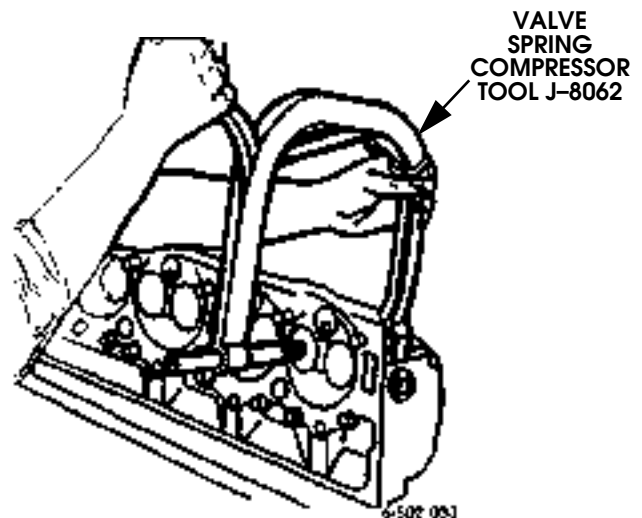

Figure 2-133: Compressing Valve Spring (to Remove Locks)
- a. Compress valve spring with compressor tool J-8062 (Figure 2-133).
- f. Compress spring with spring compressor tool (Figure 2-133).